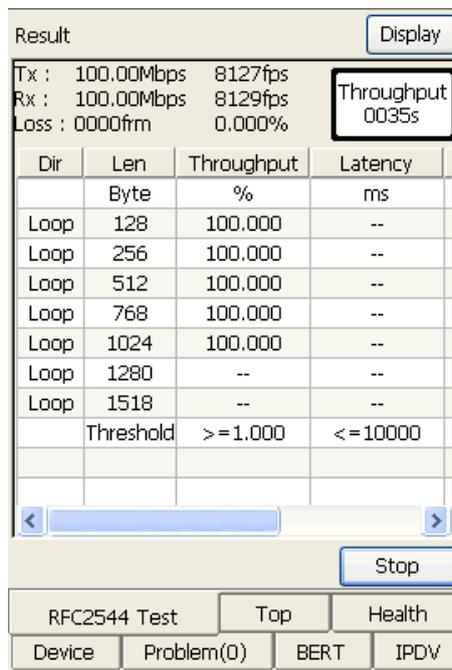

Figure 6.1.6 RFC2544 Test
**Step3:** The button will change to “Stop” if test starts, the testing process and the overview will be shown in the GUI, as shown in figure 6.1.6. You can stop it at any time.
As shown in figure 6.1.6, when the RFC2544 is running, the test procedure and the test data will be displayed in the GUI. Switch the tabs to check the different test items.